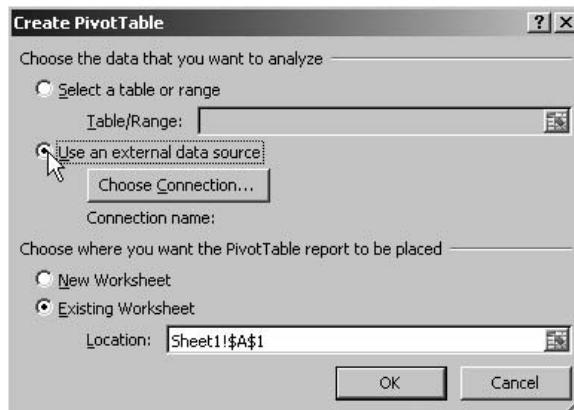

Figure 19-2 The Create Pivot Table dialog box
3. Select the Use external data source option to use data from outside the spreadsheet as shown in Figure 19-2.